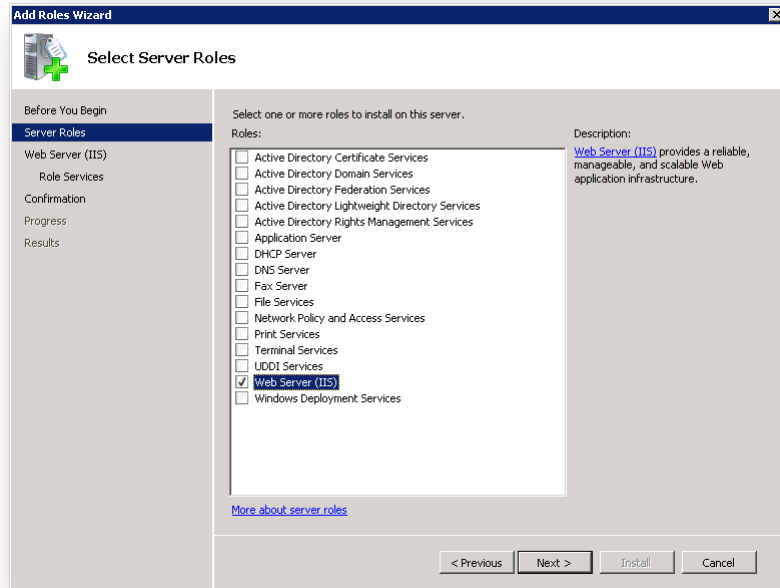

Figure 2 – Add Rules Wizard (Select Server Roles)
3. In the **Select Server Roles** window, check **Web Server (IIS)** and click **Next**. See Figure 2.